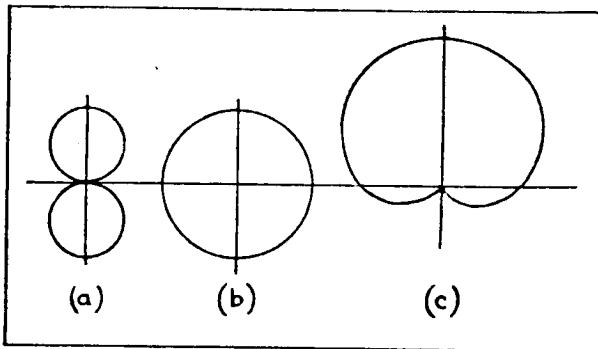

FIGURE 1 - DIRECTIONAL PATTERNS
The All-Purpose Microphone consists of two ribbon type microphones operating in a common airgap. One of the units is responsive to the pressure gradient of the sound wave and is commonly called a velocity microphone. The other unit responds to the pressure in the sound wave. The outputs of the two microphones are connected in series and the resultant vector addition of the generated voltages produces a directional characteristic as shown in Figure 1 (c). Characteristics of the velocity and pressure sections are shown at "A" and "B" respectively. The velocity section follows the conventional construction for this type of microphone. The pressure operated section is open on one side and terminated on the other in a folded tube packed with sound absorbing material. This arrangement produces a pressure operated microphone which is essentially resistance controlled over the response range. This feature is essential since both the phase and magnitude of the output voltages of both sections must maintain a correct relation over the entire operating range.
**Bi-Directional Operation** - The directional pattern is shown to approximation in Figure 1 (a). This characteristic remains substantially unchanged with frequency.
The change is effected by rotating the ring located at the top of the hemispherical base until the picture of the directional pattern desired lines up with the index mark on the case. These patterns, in color, are placed on both the front and back of the unit and may be identified by referring to Figure 1 (a), (b) and (c).